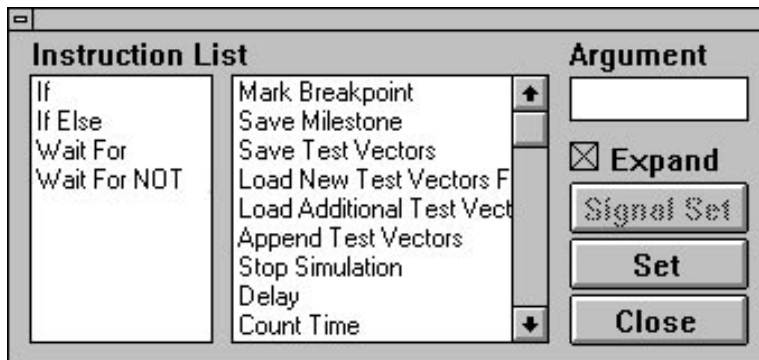

Figure 6-6. Expanded Instructions-Actions List Window
5. Double-clicking on the line located below the *Then* instruction invokes the **Instructions-Actions List** window, which lists actions available to ACTIVE-CAD upon breakpoint detection. Initially this window lists only the actions most frequently used. However, if you click on the **Expand** box, you will see additional options (Figure 6-6). You need to select the action you want, e.g. **Mark Breakpoint**, **Save Test Vector**. For example, if you select **Mark Breakpoint** and enter the letter *q* into the **Argument** field, then each time that ACTIVE-CAD detects a breakpoint, it will mark the breakpoint with the letter *q*. You can select several actions to be executed one after another at a breakpoint condition.